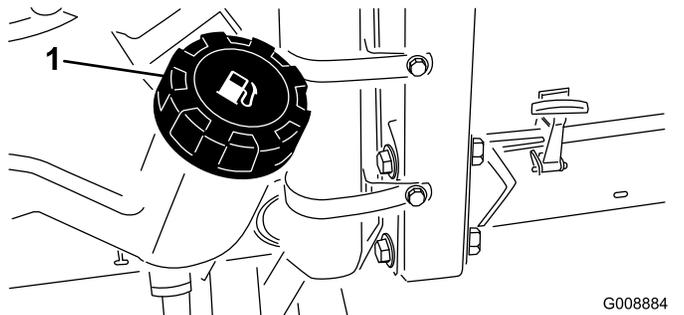

Figure 21
1. Clean the area around the fuel-tank cap (Figure 21).